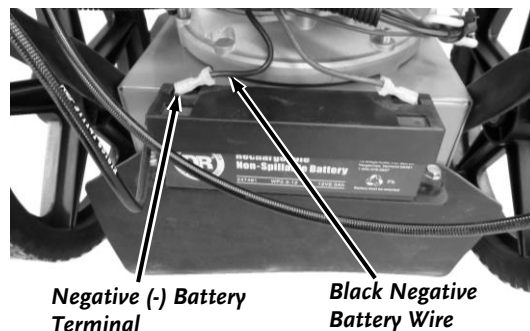

Figure 12
1. Connect the Black Negative Battery Wire by pushing the Connector onto the Negative (-) Battery terminal (Figure 12).